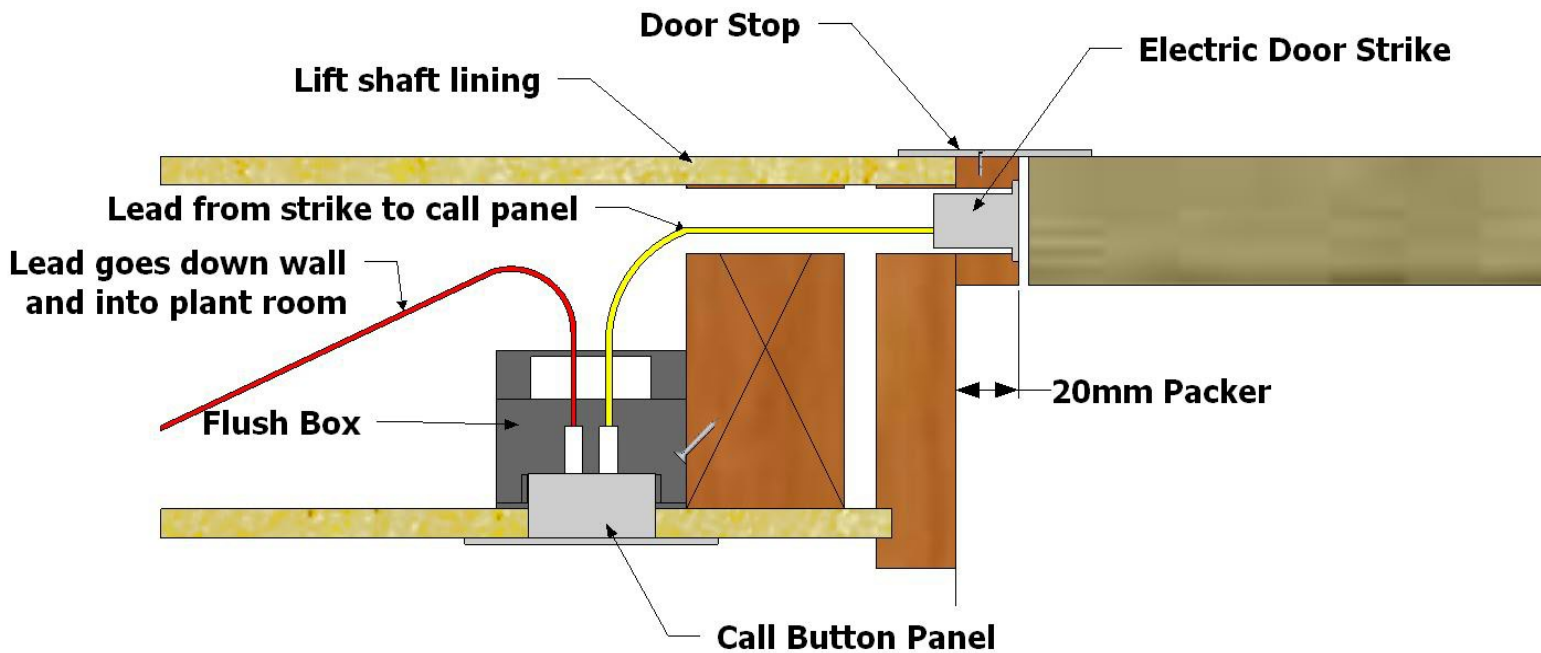
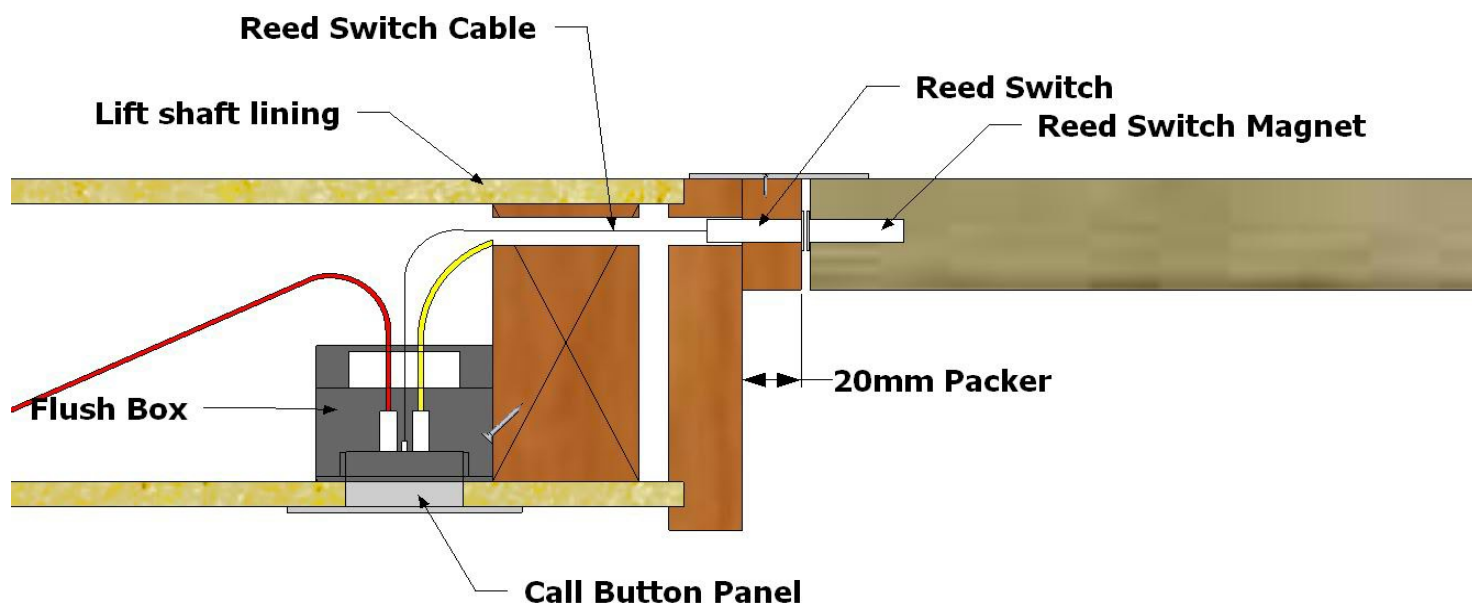

Figure 7 – Door Strike, wiring and flush box preparation
Figure 8 – Door Jamb Preparation for Reed Switch
The 20mm packer on the opening side is for the electric door strike (see figure 7) and reed switch (see figure 8) to be fitted.
Figure 7 shows the door jamb area prepared for the electric door strike, wires and call button flush box.
**Wire Hole Preparation:** A 20mm hole should be drilled through the centre of the door strike cavity and through to the void behind the door frame as shown. Powerglide will connect the wires from the door strike to the call button through this hole, as shown in figure 7.
Figure 8 shows how the door jamb and door are prepared for the reed switch and magnet.